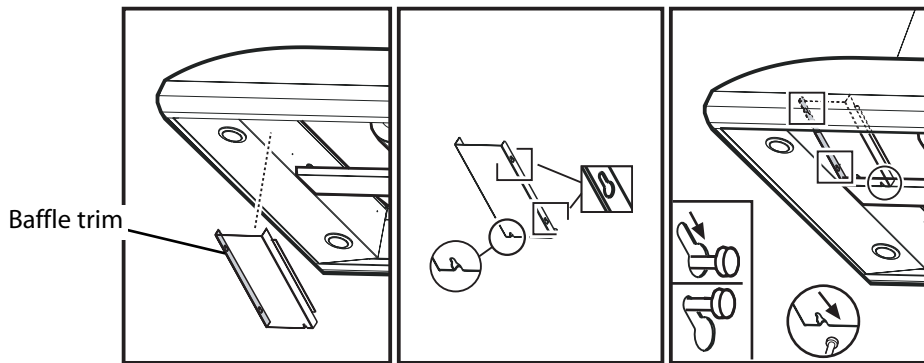

Fig. 13
3. Snap four-side baffle trim to hood (4 pins engage each side trim). The baffle trims are supplied separately (for IVS52 only). See Fig. 13.